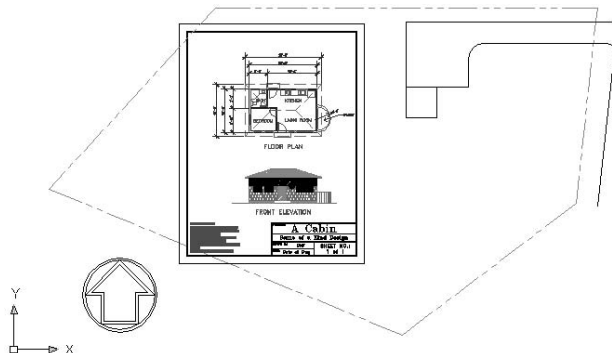

FIGURE 12.7: The Cabin12a drawing attached to the Site12a drawing
3. Pick any point within the property line and to the left of the patio to be the insertion point. The Xref drawing is attached and appears in the site plan (see Figure 12.7).